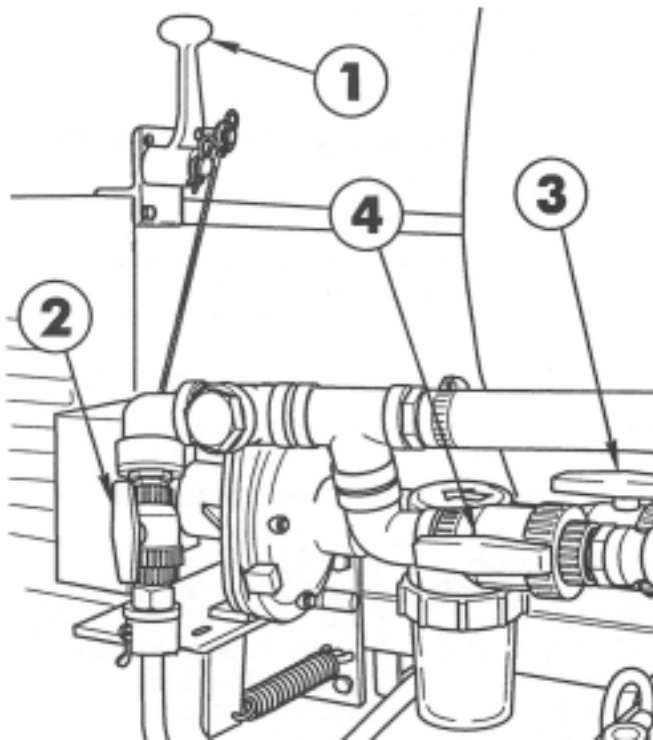

FIG. 1
**PUMP ENGAGEMENT LEVER:** Pivot the pump engagement lever DOWN to lower the centrifugal pump and ENGAGE the drive belt. Pull the lever UP to DISENGAGE the drive belt. See FIG. 1.